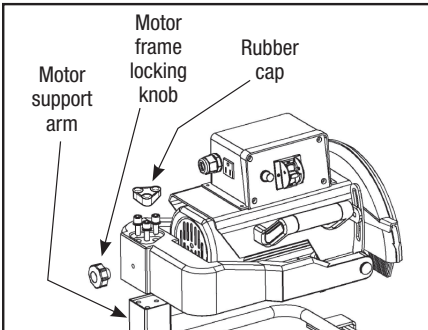

FIGURE 6
STEP 1: Install the *motor frame assembly* into the *motor support arm* (FIGURE 6).